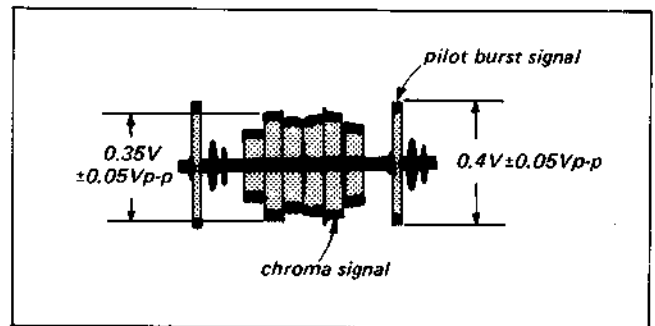

Fig. 4-4-17. Chroma record current adjustment
- (1) Supply the VTR with the colour bar signal and set up the E-E mode.
- (2) Connect the oscilloscope to TP26 (emitter of Q56).
- (3) Adjust RV20 for a chroma signal level of  $0.35\text{ V} \pm 0.05\text{ V}_{p-p}$ . (See Fig. 4-4-17.)
- (4) Check that the level of the pilot burst signal is  $0.4\text{ V} \pm 0.05\text{ V}_{p-p}$ . (See Fig. 4-4-17.) If not, adjust RV18.